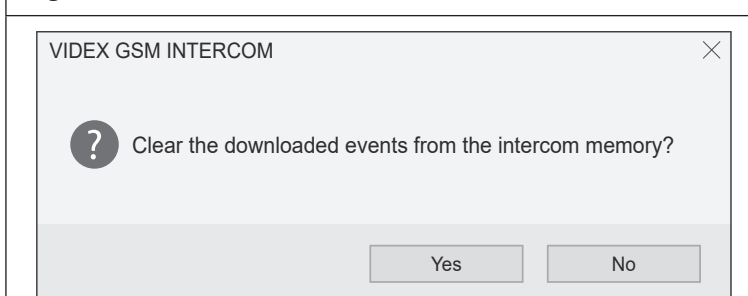

Fig. 73
- Once the event log has been saved the '**clear the downloaded events**' prompt window will appear, as shown in **Fig.73**.